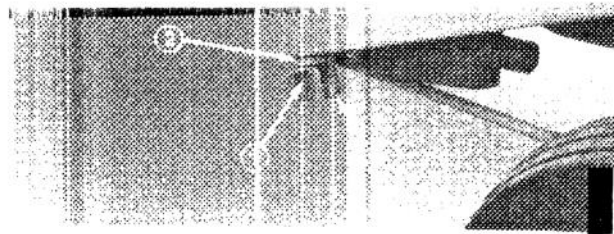

Figure 4
3. Remove capscrew and flangenut securing front engine support to frame. Secure Belly Shield hanger and engine support to frame with $3/8 \times 1-11/4$ capscrew and flangenut. Repeat procedure on opposite side of machine (Fig. 4). Discard $3/8'' \times 1''$ long capscrew removed (gas units only).